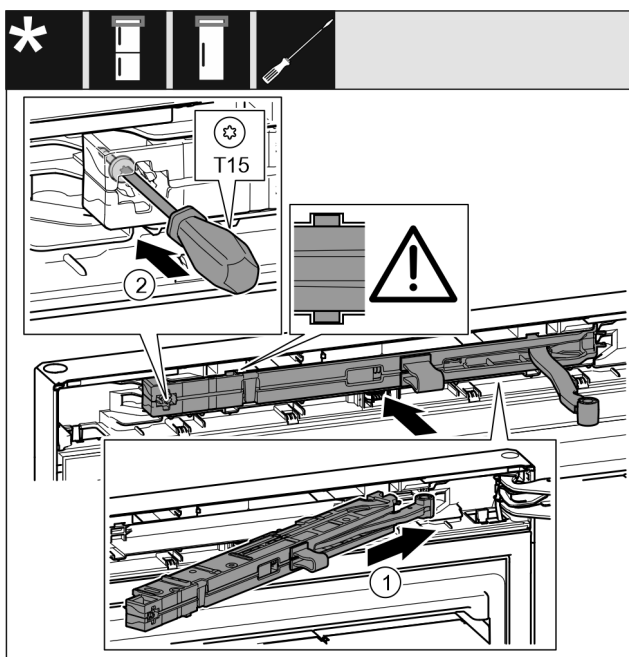

Fig. 52
- ▶ On the swap bearing block side, slide the closing damper unit *Fig. 52 (1)* into the recess at an angle up to the stop.
- ▶ Use a screwdriver to tighten the screw *Fig. 52 (2)*.